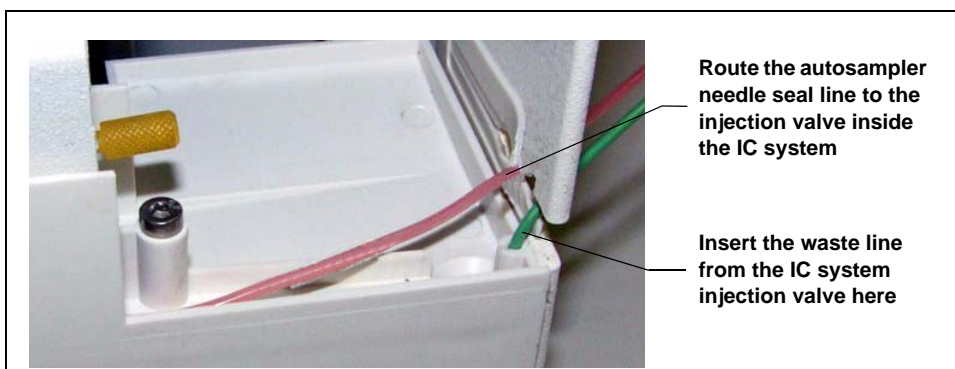

Figure 6. AS Autosampler Drip Tray and Right Side Slot
3. Route the needle seal line that extends from the autosampler inject port through the autosampler right side slot (see Figure 6) and then through the IC system left side slot to the injection valve.
8. Push the end of the green waste line into the small round opening on the right side of the AS tray (see Figure 6).